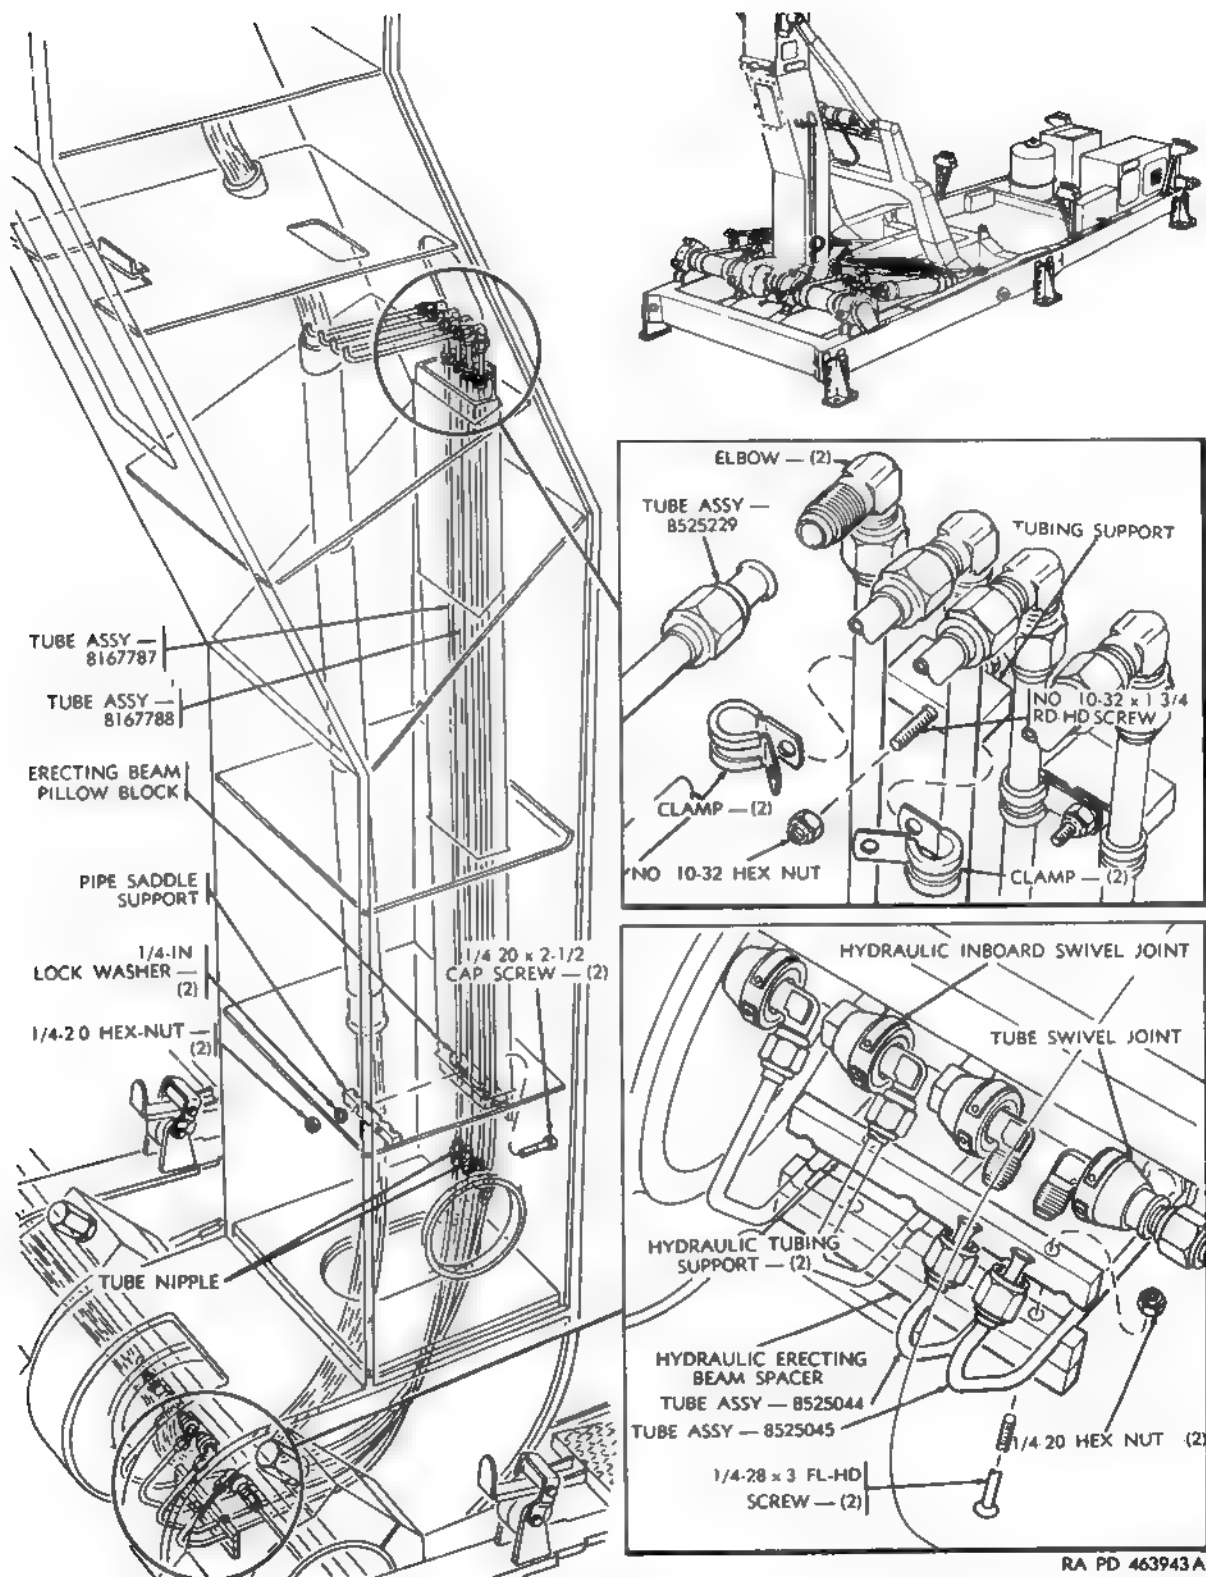

Figure 182. Locking wedge system hydraulic network—removal and installation—continued.
- (4) Depressurize the hydraulic oil reservoir by turning the handle of the plug cock to the VENT position and holding until all pressure is discharged.
- (5) Remove the clamps (fig. 182) from tube assemblies to be replaced.